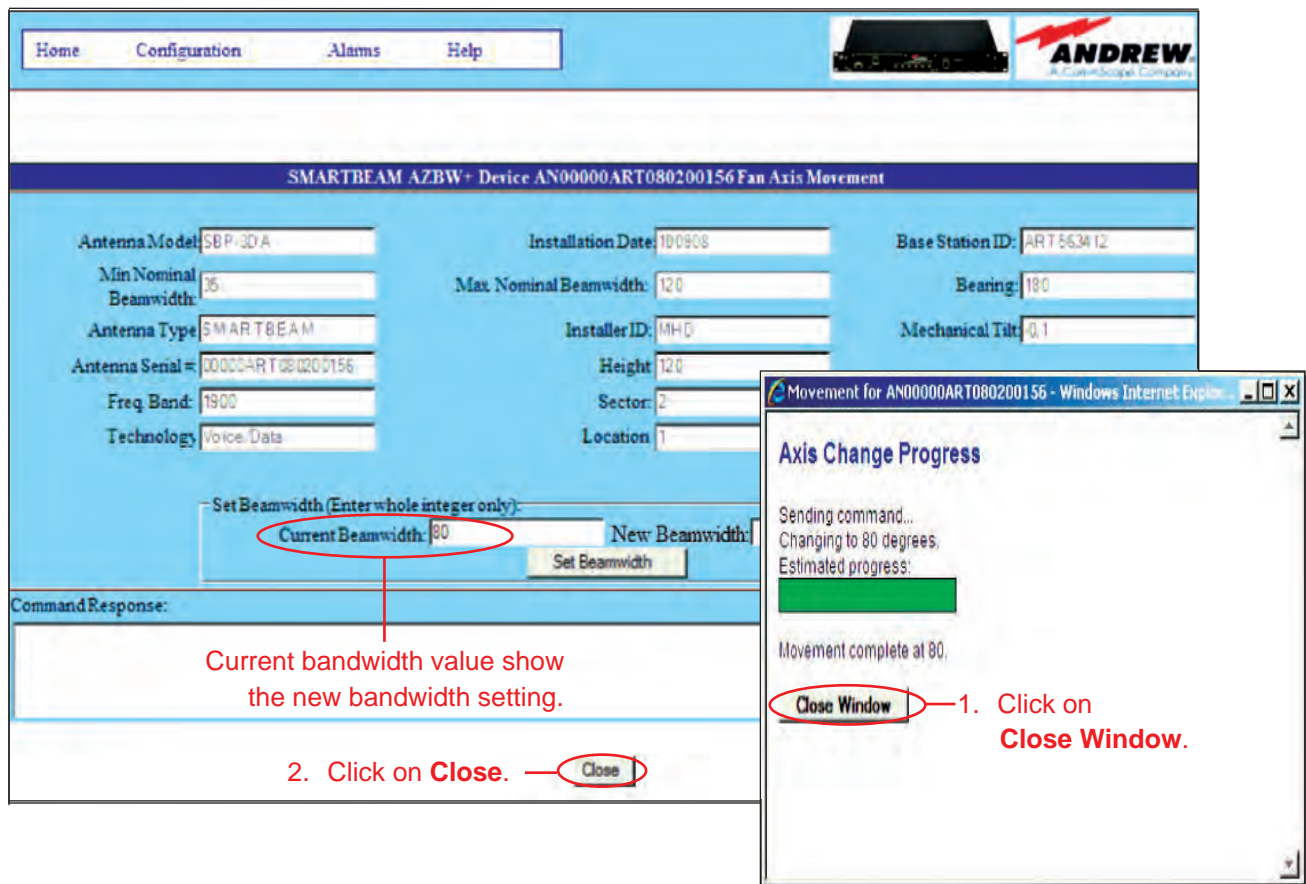

Figure 21-3. Beamwidth Change Complete For Single Antenna Move.
- 5. A progress indicator bar will appear in a pop-up window to continually provide an update for as long as the move is in progress. You will be notified when movement is complete. Click on **Close Window** from the pop-up window (Figure 21-3).
- 6. After the antenna has completed movement to its new beamwidth, the new value will be displayed in the **Current Beamwidth** field and the **New Beamwidth** will be cleared in preparation for the next move (Figure 21-3).
At this point, you may click on **Close** (Figure 21-3) to return to the controller's main interface screen (Figure 21-4). Alternately, this process may be repeated to further adjust the beamwidth or to reapply changes where movement had previously failed, such as a temporary mechanical jam.